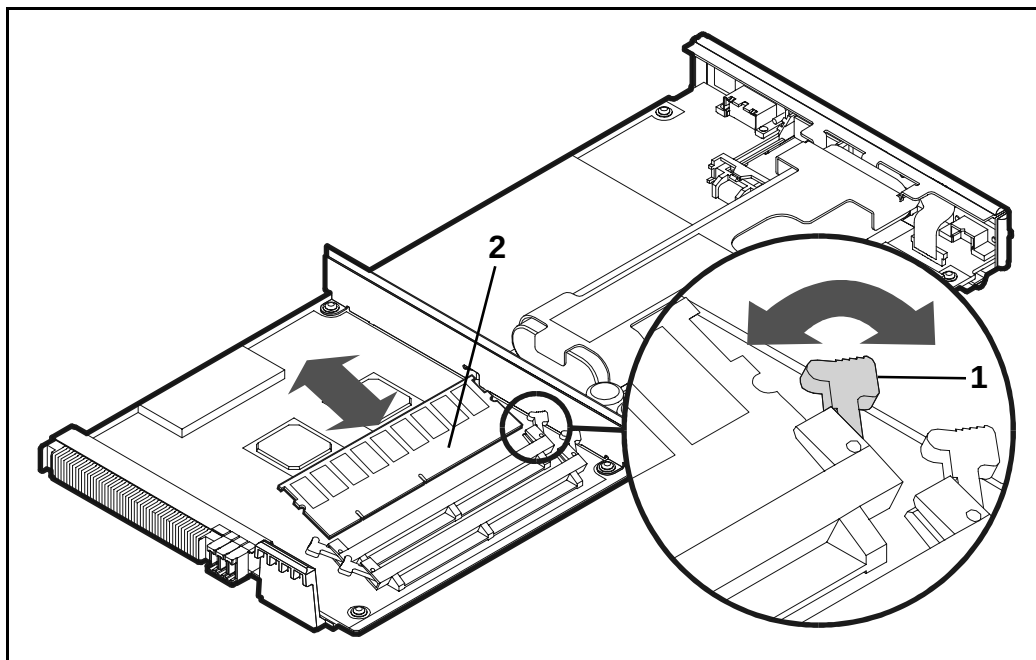

Figure 38 Removing & Replacing an Array Controller DIMM
3. Use your thumbs to pull out both DIMM extraction levers (Figure 38, 1) at the same time. The DIMM will automatically pop out of the DIMM slot.
4. Remove the DIMM (2) from the slot.
- To avoid interference when replacing DIMMs, always load the DIMM 1 slot first (see Figure 38, 2).
1. Insert the DIMM (Figure 38, 2) evenly into the DIMM slot.
2. Use your thumbs to apply even pressure to the top edge of the DIMM and push the DIMM firmly into the slot. The DIMM extraction levers (1) will automatically capture the DIMM.